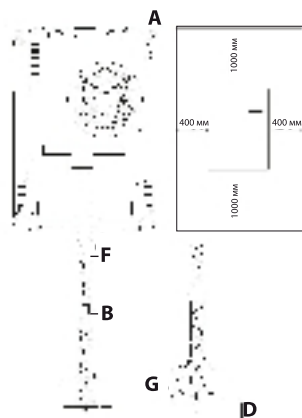

Fig. 4
4. Insert unit A into bracket C. Make a mark in point F (Fig.4). Remove the unit and drill a hole in point F. Insert the unit into the bracket. Make sure the bracket goes to the unit's slot completely. Attach the unit to the bracket by screw E (Fig.4).